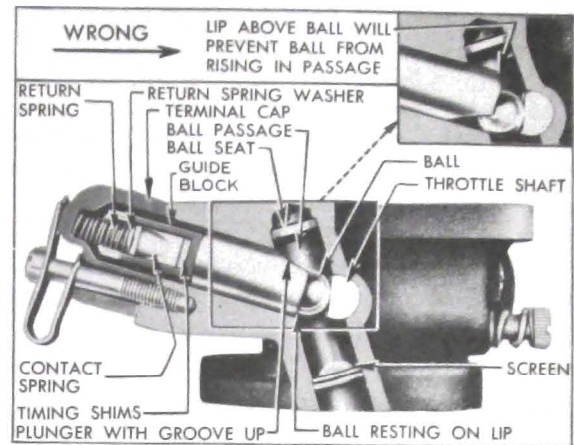

Figure 10-28—Assembly of Accelerator Vacuum Switch
1. Disconnect wires from terminals. Hold down on switch terminal cap while removing hold down clip. Remove terminal cap and return spring, then lift out switch guide block with contact spring and shims. Do not lose timing shims and the spring washer on contact spring. See figure 10-28.
9. Place plunger in position with the groove up so that the ball rests on lip at inner end of plunger. See figure 10-28. If the plunger is installed with groove down, the ball will be prevented from rising into the ball passage when
10. Make sure that all timing washers, contact spring, and the return spring washer are in proper position before installing the return spring and terminal cap. Make sure that terminal cap is properly seated. See figure 10-28.